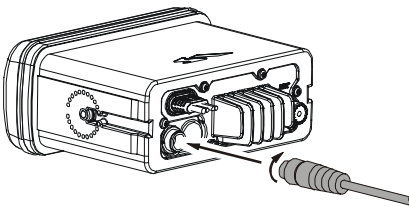

Figure 2
1. Connect the RAM+ MIC Cable to the **RAM MIC CONNECTOR** on the rear panel of the **Phantom PS2000**, then tighten the Cable Nut (See Figure 2).